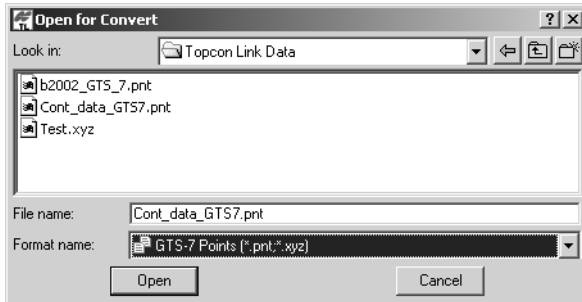

Figure 3-5. Open for Convert
3. Click **Browse** (“...”) and select the file for conversion in the *Open for convert* dialog box (Figure 3-5).